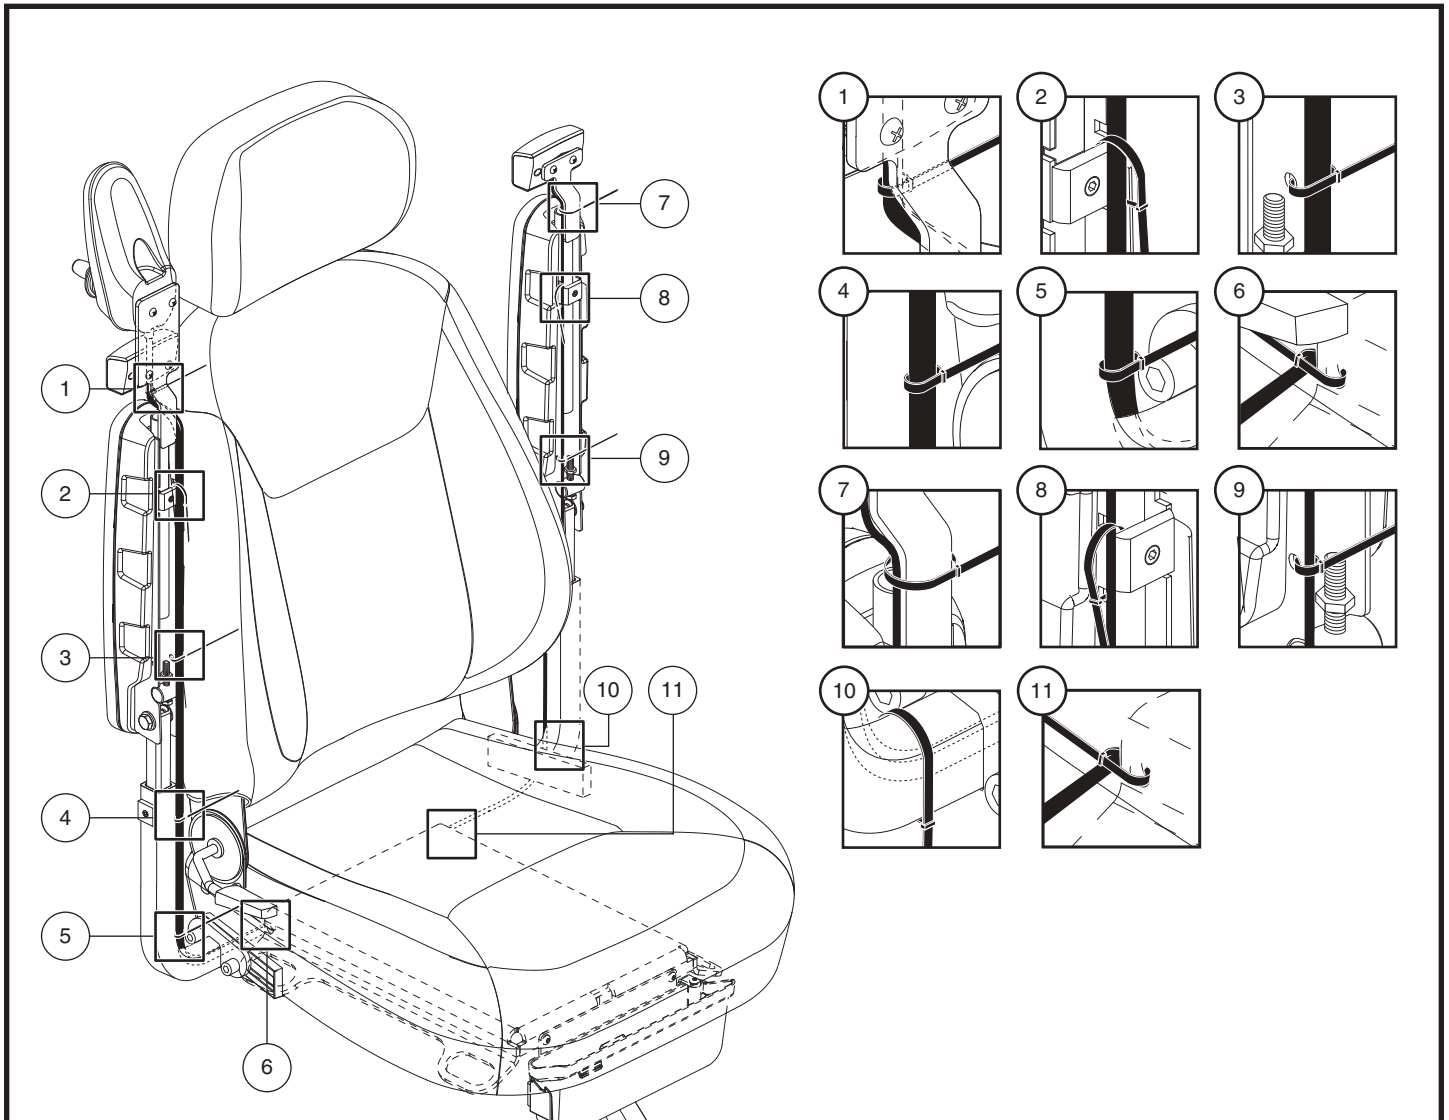

Figure 11. Controller Harness Routing
17. Secure the harnesses on the armrest with the supplied wire-ties as shown in **figure 11**.
19. Secure the harnesses along the armrest receiver and seat plate with supplied wire-ties as shown in **figure 11**.
WARNING! Ensure that all harnesses are properly routed as shown in figure 11. Improper routing can cause damage to the light switch, controller or other electrical components.
2. For locations 1 through 10, tighten the wire-ties into place according to the proper harness routing as shown in figure 11.
9. Route the controller harness along the seat frame and secure with wire ties. **See figure 11.**